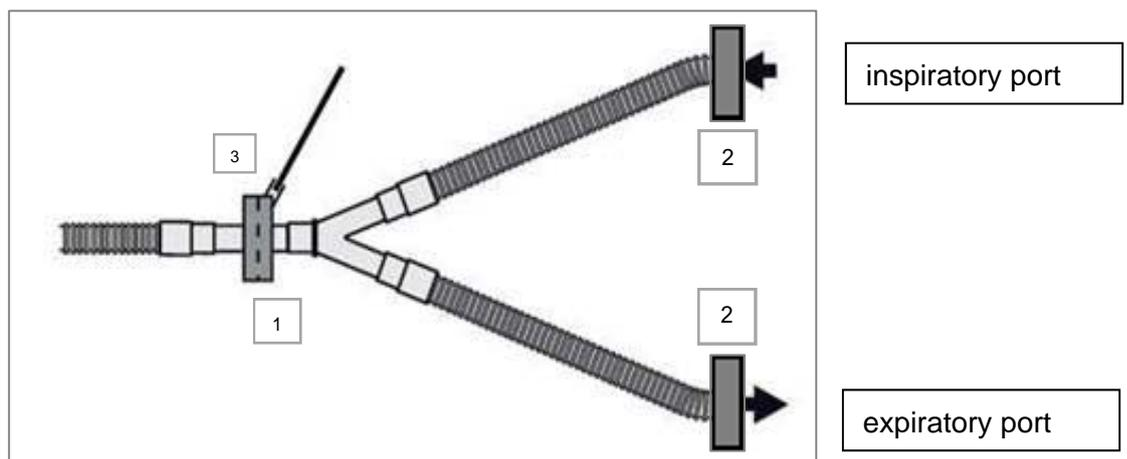

Figure 2: System setup recommendation for pediatric patients (tidal volume approx. 30 - 300 ml)
- Use a HME or an HMEF such as TwinStar 25 (MP01815), TwinStar 10A (MP01825) or TwinStar 8 (MP01820) between the tracheal tube and the Y-piece of the breathing circuit (hoses) (see position 1/ figure 2).
Caution: The sample line should be connected on the device side of the HME / HMEF (see position 3/ figure 2). If a filter is used between the tracheal tube and the Y-piece of the breathing circuit (hoses) and the sample line is connected on the patient side of the HME / HMEF air can be drawn from the patient's lungs if the filter material gets clogged.
- Use mechanical BSFs (adult) e.g. Dräger SafeStar 55 (MP01790) at each the expiratory and the inspiratory port of the anesthesia machine (see position 2/ figure 2).